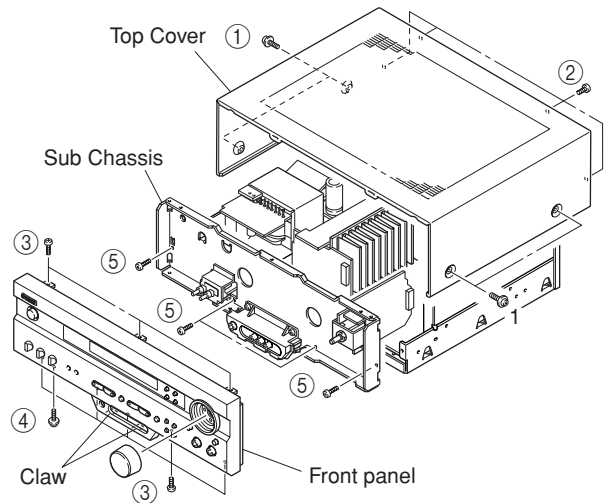

Fig. 1
1. Removal of Top Cover (Fig. 1)
- Remove 4 screws (①) and 4 screws (②).
2. Removal of Front Panel (Fig. 1)
- Remove 8 screws (③) and 1 screw (④).
3. Removal of Sub Chassis (Fig. 1)